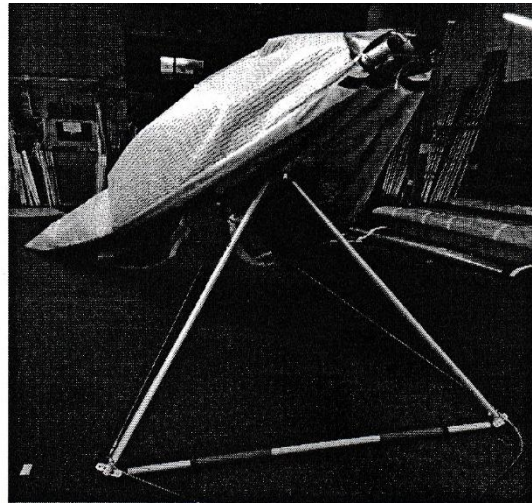

Figure 7
5. Lift the wing upright on the control frame (fig.7)